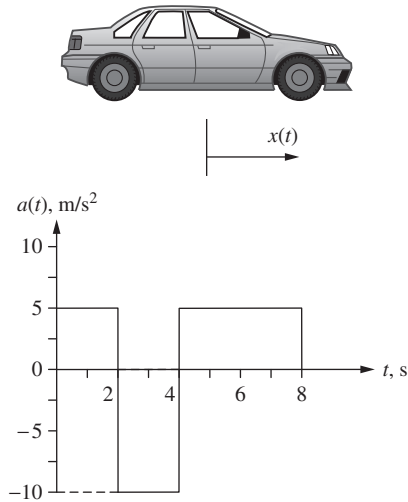

Figure P9.24 Vehicle subjected to a given acceleration for problem 9-24.
- 9-24.** A vehicle starting from rest at a position $x(0) = 0$ is subjected to the acceleration given in Fig. P9.24.